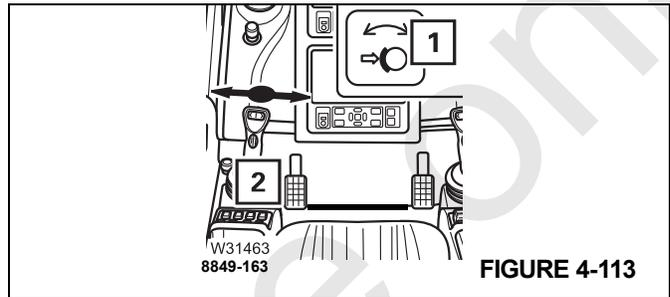

FIGURE 4-113
Lamp (1), (Figure 4-113) will extinguish if the swing brake has been released.